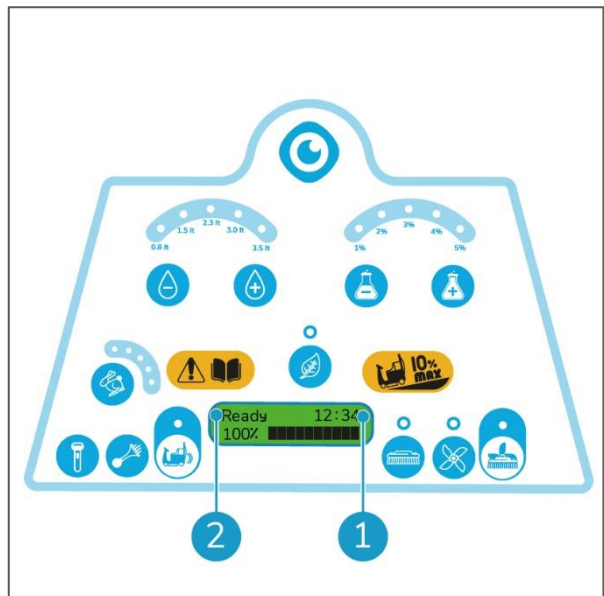

Figure 38
3. Wait until "Ready" (Figure 38, pos 2) appears on the display.
4. The amount of operating hours and minutes spent is shown in the top right corner of the display (Figure 38, pos 1).